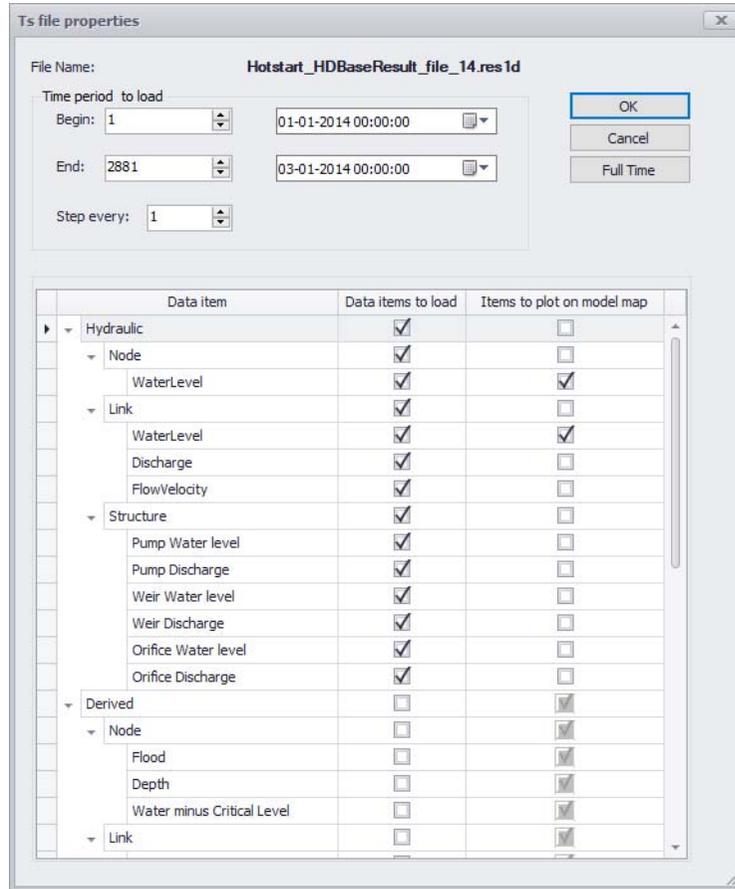

Figure 19.4 Example of the result file data selection dialog
- A dialog with choices of data types to load from the result appears. The items displayed are dependent on the type of result file being loaded. An example is shown in Figure 19.4.